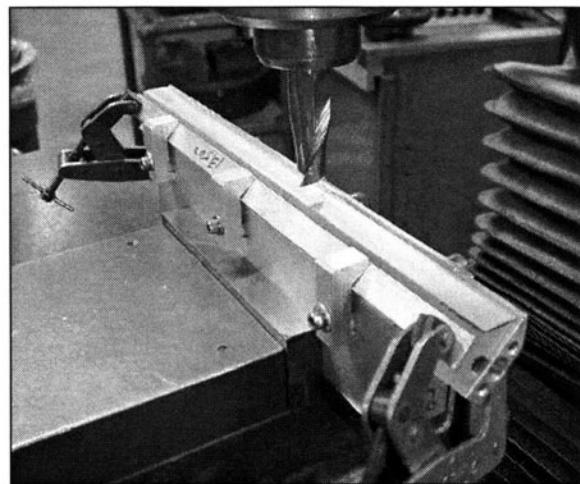

FIGURE 3-24 Well designed fixtures take the aggravation out of running jobs.
34. *Use Kant-Twist® clamps. (See Fig. 3-24)*
35. *Make fixtures for easier machining. (See Fig. 3-24)*